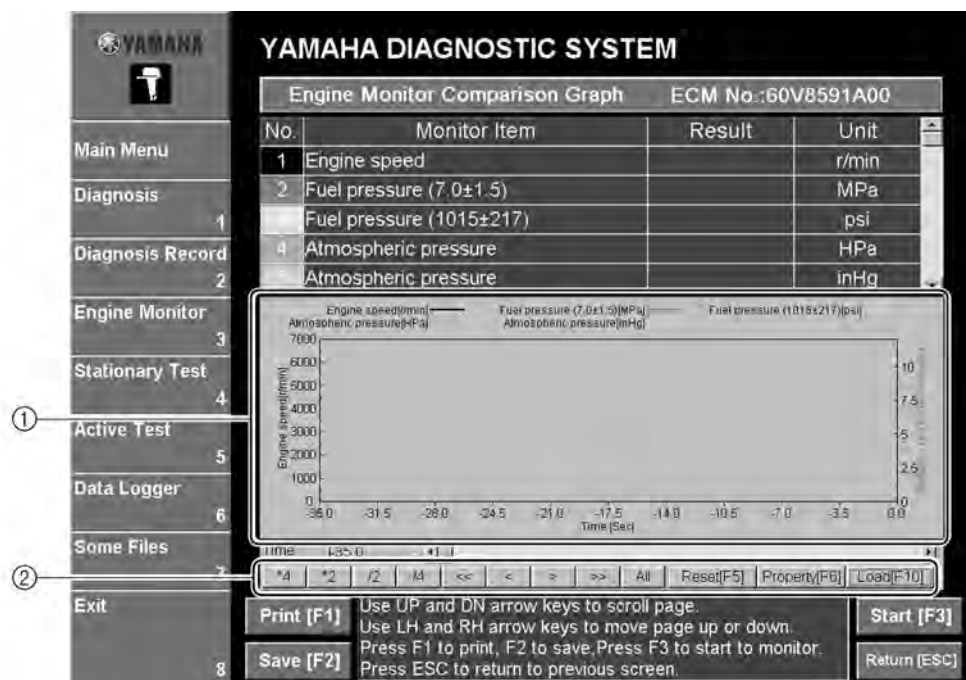

Fig. 50
2. The program displays the comparison graph window. (Fig. 50)